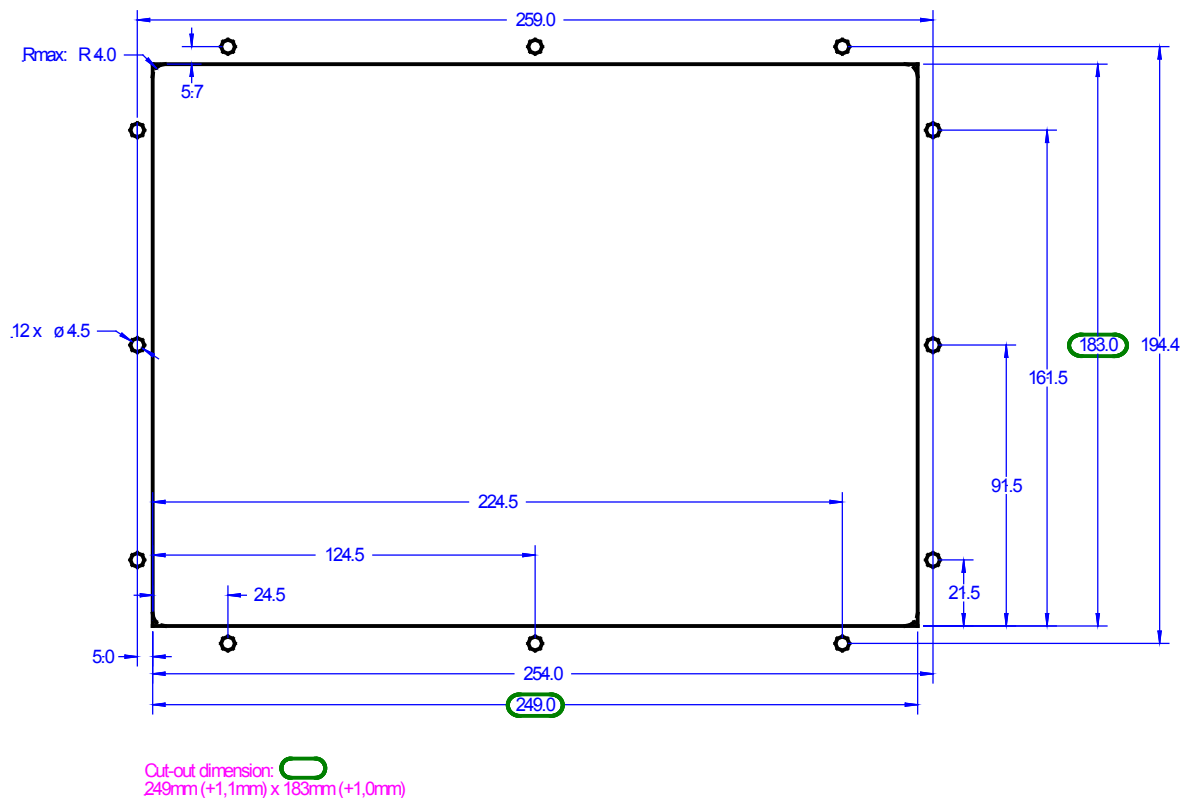

Figure 4-5: Plastic housing - drill plan
Refer to Figure 4-5 on page 14 for a cutout drawing.
The housing is equipped with 12 nut inserts (refer to Figure 4-5 for their position), which must all be tightened properly to achieve the required degree of protection.
1. Cut out the panel and drill the holes according to the dimensions in Figure 4-5 (dimensions shown in mm).